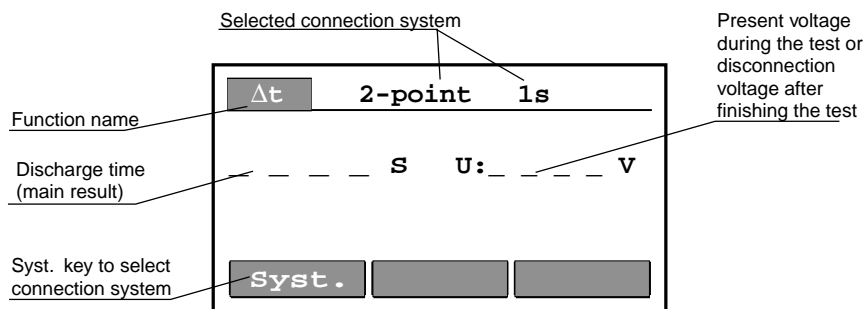
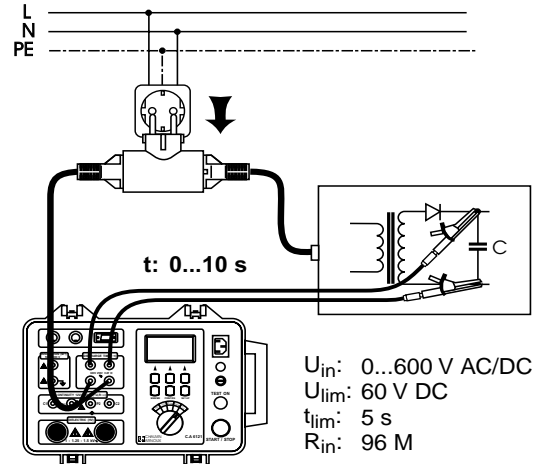

Fig.21. Basic screen in Δt position
Fig.26. Connection of the test leads
1. Set the rotary switch to Δt (discharge time) position; the screen in fig.21 is displayed.
2. Select 4-pole system by pressing the SYST. key (4-point 5s is displayed)
3. Connect the test cables to the instrument and to the tested unit in accordance with figure 26; le  symbol is displayed above unit S, informing the user that the mains voltage is connected to the MAINS TEST input.